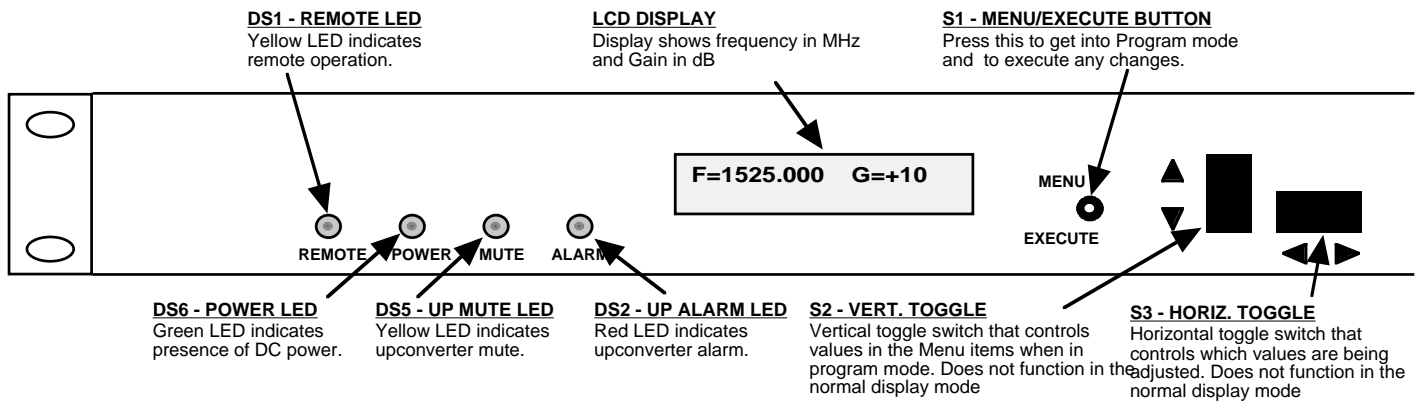

FIGURE 2.2 2015-12 Front Panel Controls and Indicators
7. Be sure DS6 (green, DC Power) is on and DS2 (red, Alarm) is off (Figure 2.2).
Alarm indications appear on the LEDs (see figure 2.2).